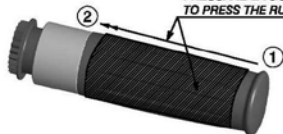

FIG.3
4-PER EVITARE LA FORMAZIONE DI BOLLE D'ARIA TRA LA GOMMA E LA MANOPOLA SI CONSIGLIA DI PRESSARE LA GOMMA CON LE MANI DALLA FINE ① ALL'INIZIO ② DELLA MANOPOLA, NON USARE LA MANOPOLA PER MINIMO 2H (VEDI FIG.3).
4- TO AVOID ANY AIR BUBBLES BETWEEN THE GRIP AND THE RUBBER WE RECOMMENDED TO PRESS THE RUBBER WITH THE HAND FROM THE END ① TO THE TOP ② OF GRIP, DON'T USE THE GRIP FOR MINIMUM 2H (SEE FIG.3).